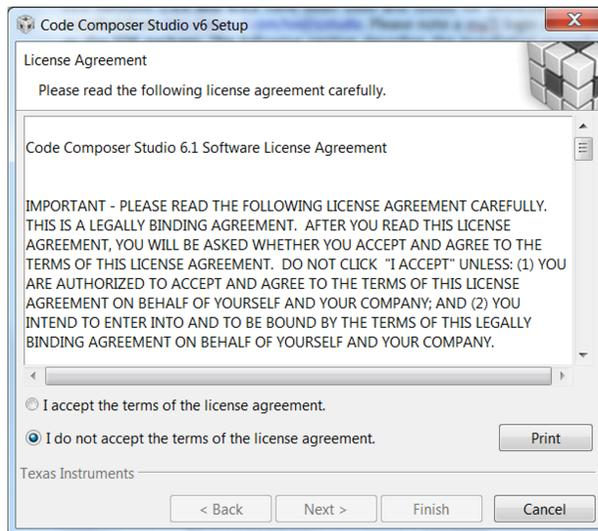

Figure 7. CCS License Agreement
- Step 2. Read through and accept the license agreement to proceed with the installation (see Figure 7).